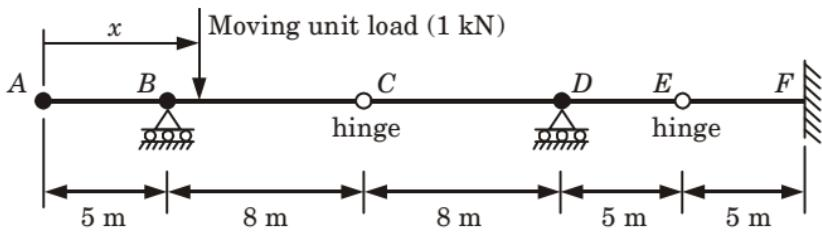

Fig. 9.
- a. By using Muller-Breslau's principle construct influence line diagram for the beam as shown in Fig. 9.